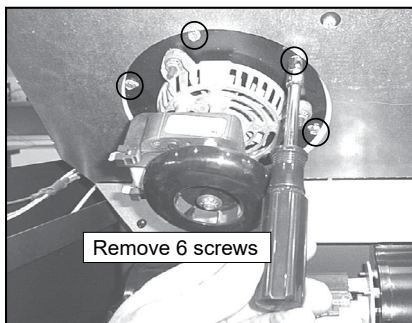

Figure 25.2
- Remove 6 screws using a flathead screwdriver or a 1/4" nut-driver. Retain screws for use on replacement blower (**Figure 25.2**).